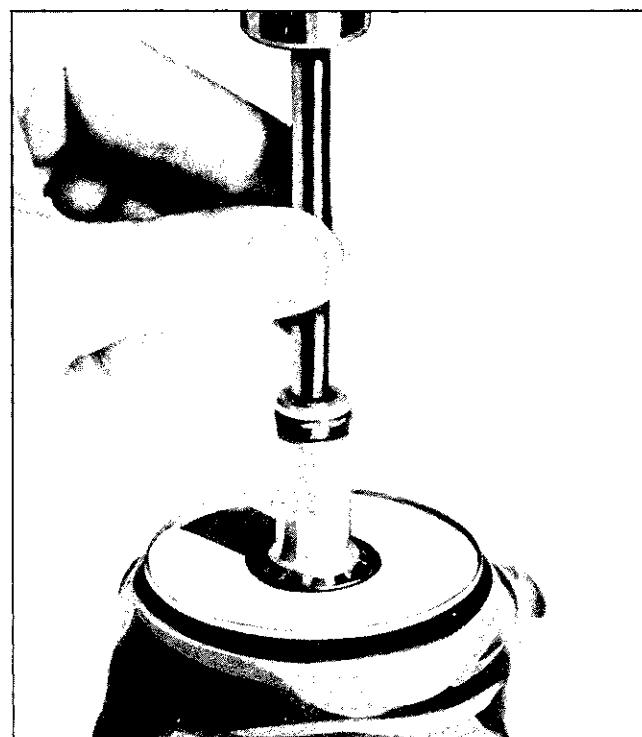

Fig. 4-20 Installing Check Valve
2. Insert new expansion plug retainer and tap in until it bottoms (Fig. 4-20).